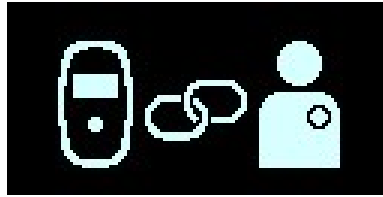

Figure 77: Charger/IPG Pairing Screen
4. The Charger/IPG Pairing screen is displayed while the Vesta Charger is actively attempting to pair with the OPTIMIZER Smart Mini IPG. **See Figure 77.**